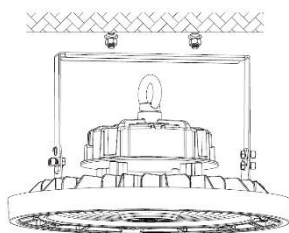

Figure 4
- 10: Attach surface bracket to anchors and tighten nuts. (Figure 4 & 5)